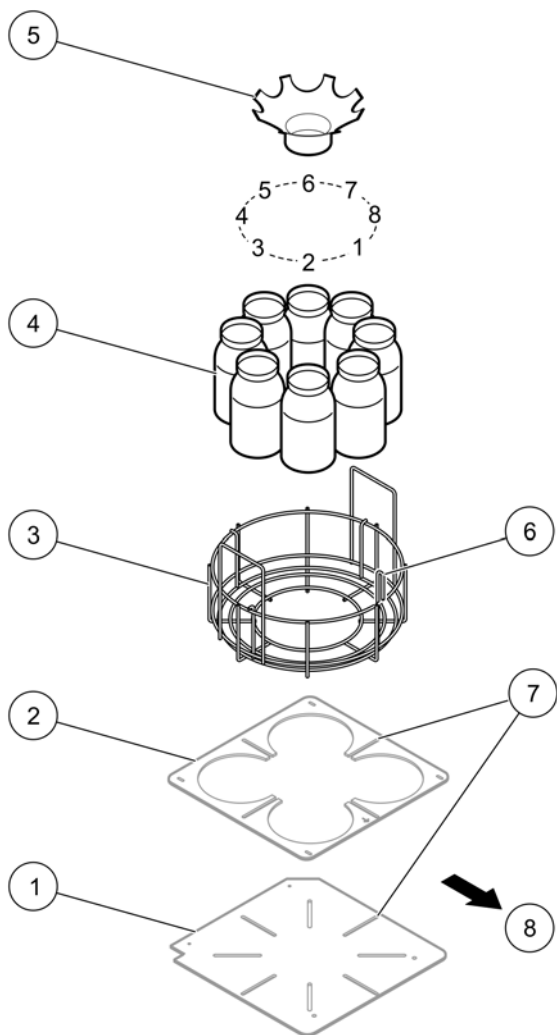

Figure 10 Eight bottle installation
2. Place the bottles into the bottle tray. Looking down on the tray, bottle one is the first bottle to the left of the bottle one indicator wire (see Figure 10 on page 26).